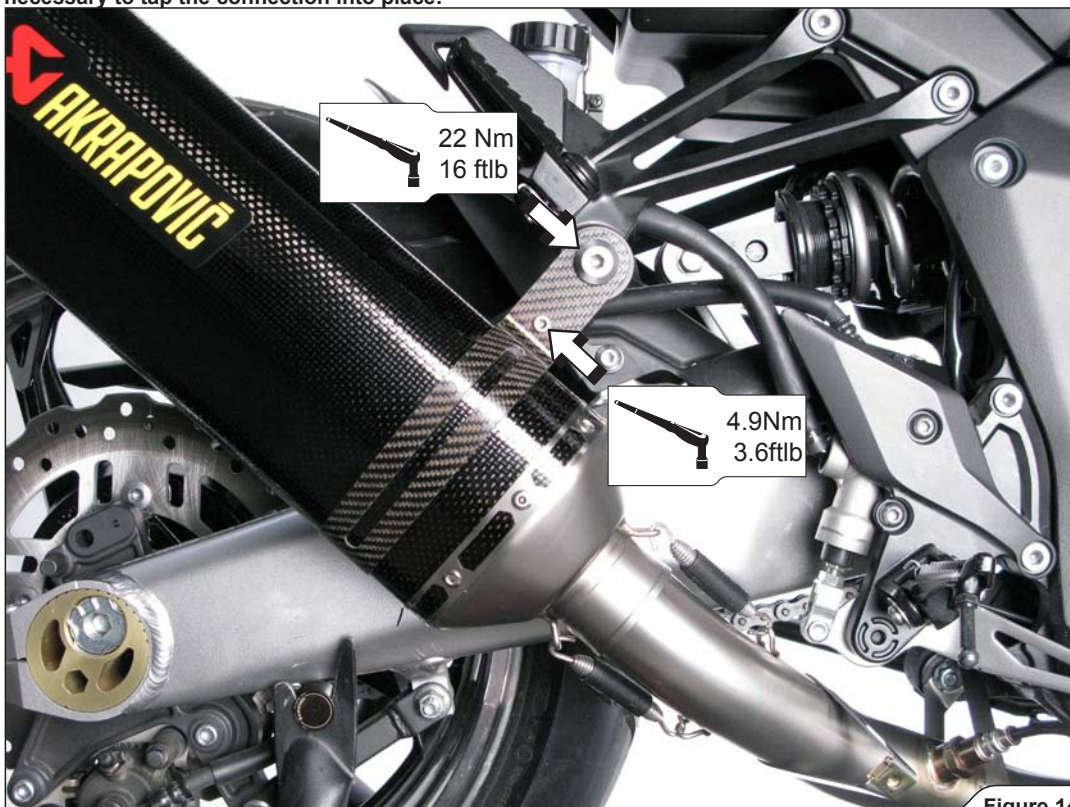

Figure 14
- Correctly position the carbon-fiber clamp and slide it onto the muffler - bear in mind the **left offset** of the carbon fiber- clamp viewed from the rear. Slide the muffler onto the outlet side of the link pipe and attach the springs. Align the muffler in respect to the motorcycle and tighten the carbon-fiber clamp to the specified torques (Figure 14).